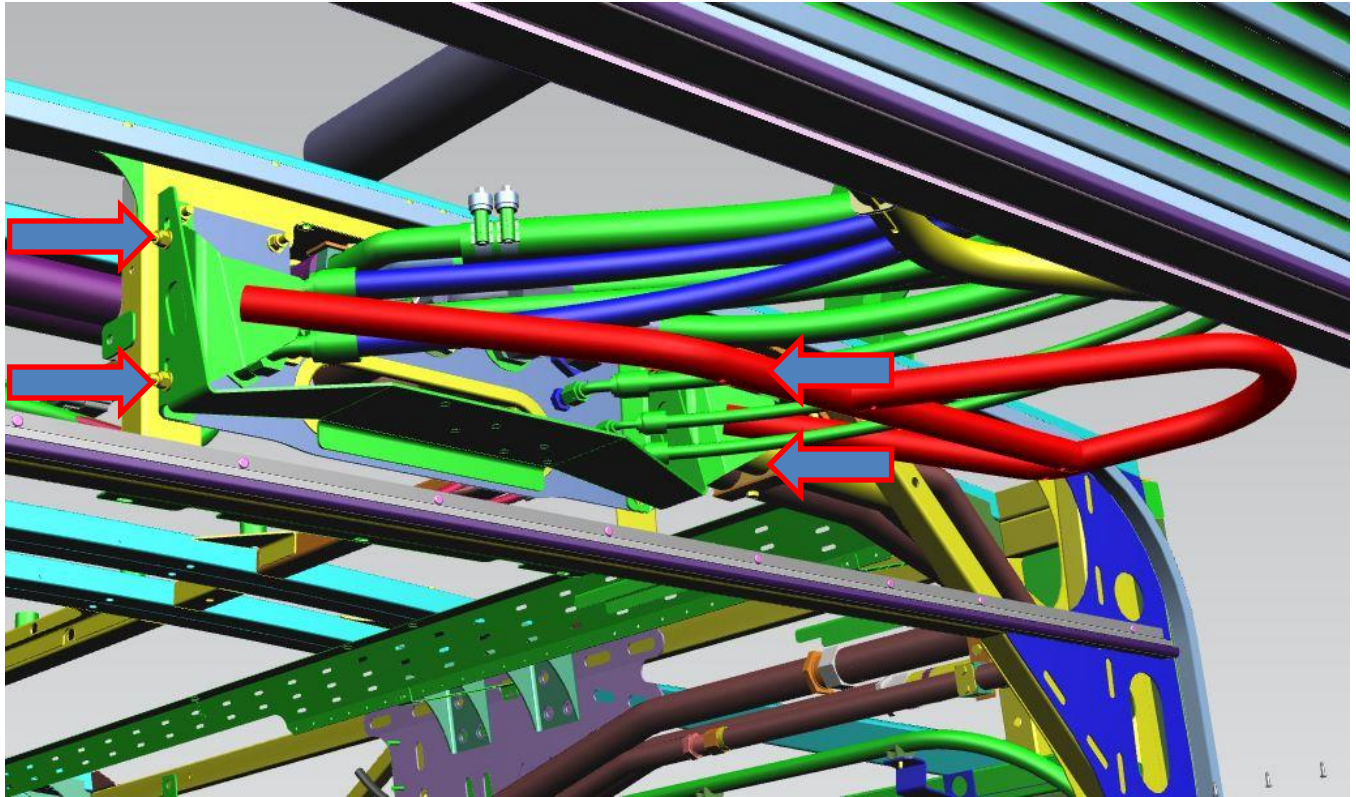

FIGURE 11: VIEW OF BRACKET TO BE DISCONNECTED AND SET OFF TO THE SIDE
17. Remove bolts (x2 per side) to allow to drop down harness support bracket at the artic joint to gain access. Push assembly off to the side to prevent any damage. See Figure 11.